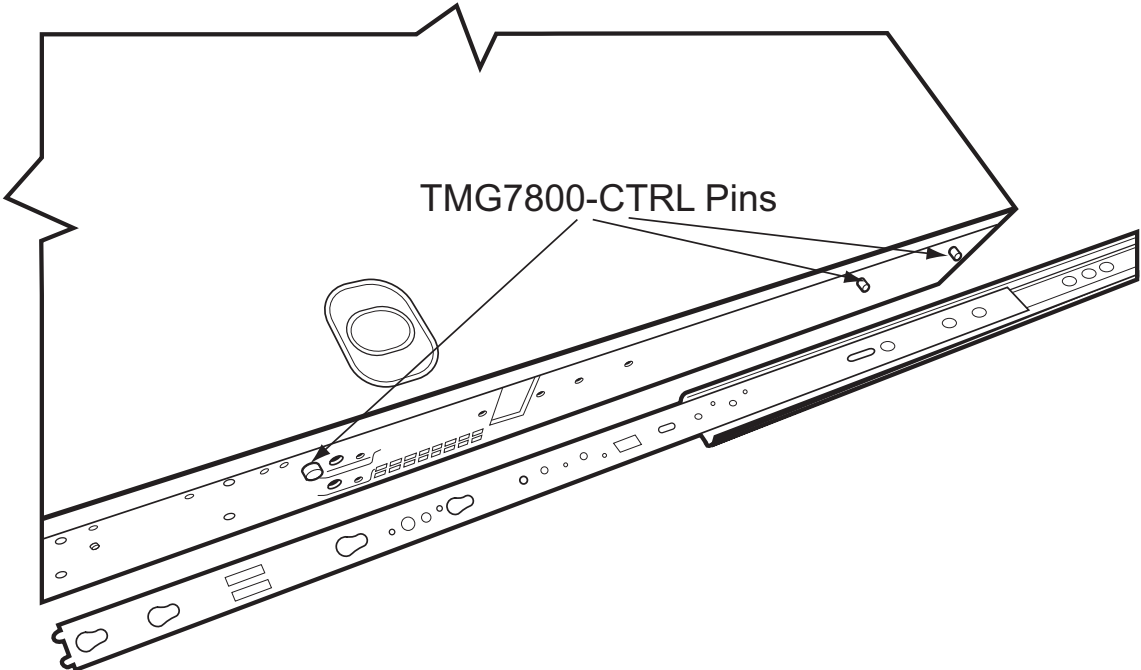
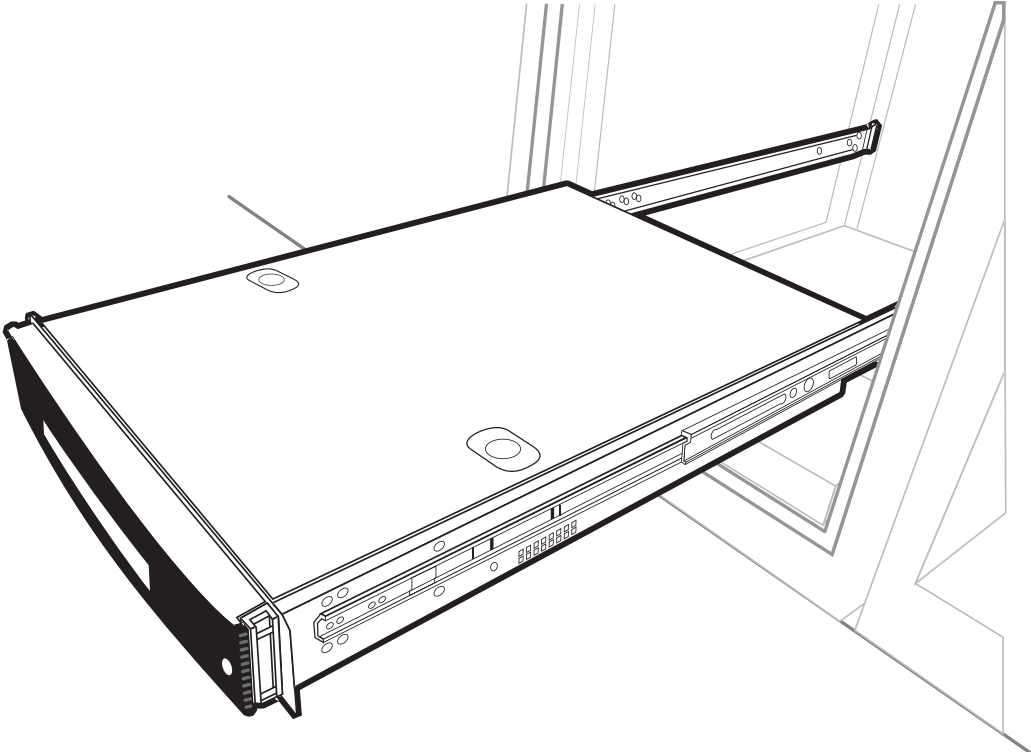

Figure 2.5 Attaching Sliding Rails to the TMG7800-CTRL Mounting Pins
Figure 2.6 TMG7800-CTRL Installed on Slider Rails in the Fully Extended Poition
4. Attach the TMG7800-CTRL to the rails. See figure 2.5 on page 15 and figure 2.6 on page 15.